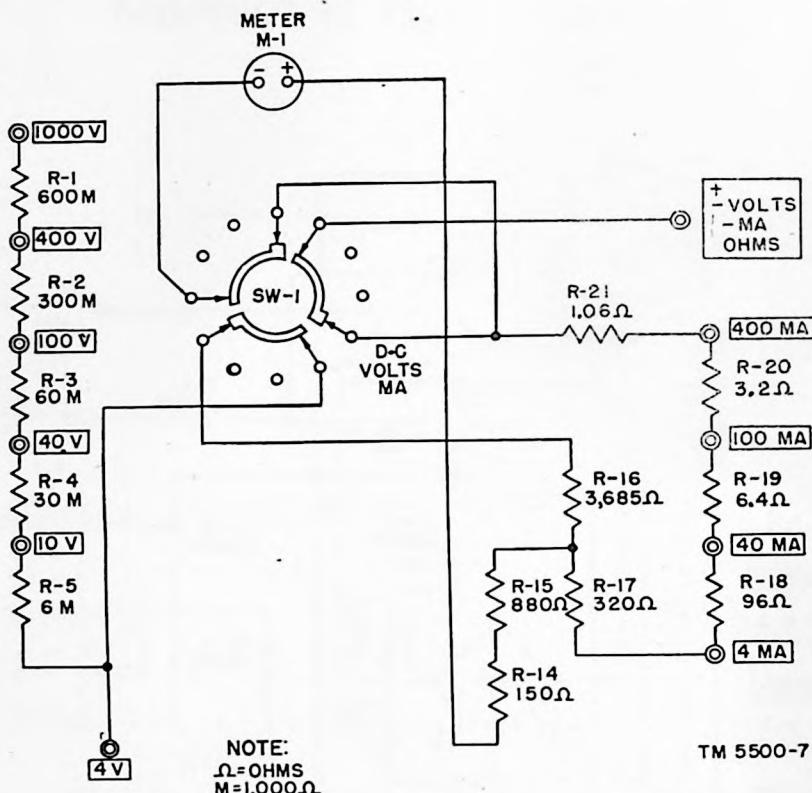

Figure 7. D-c volts-ma circuit, schematic diagram.
a. MILLIAMMETER (fig. 7). When the multimeter is used to measure direct current, the meter is connected to a universal shunt composed of resistors R-21, R-20, R-19, R-18, R-17, R-15, and R-14. R-14 compensates for resistance variations in the circuit due to temperature changes. Taps taken off between the shunt resistors vary the current sensitivity so that current introduced into the appropriate tap may be measured from 1 ma to 400 ma.
b. D-c VOLTMETER (fig. 7). When the multimeter is used to measure d-c voltage, a tap of the universal shunt is used to obtain a sensitivity of 1 ma, and resistor R-16 is added to the circuit as the multiplier for
(2) Simplified, partial schematic diagrams, by which electrical functioning of circuits can be quickly followed (figs. 7, 8, and 9).